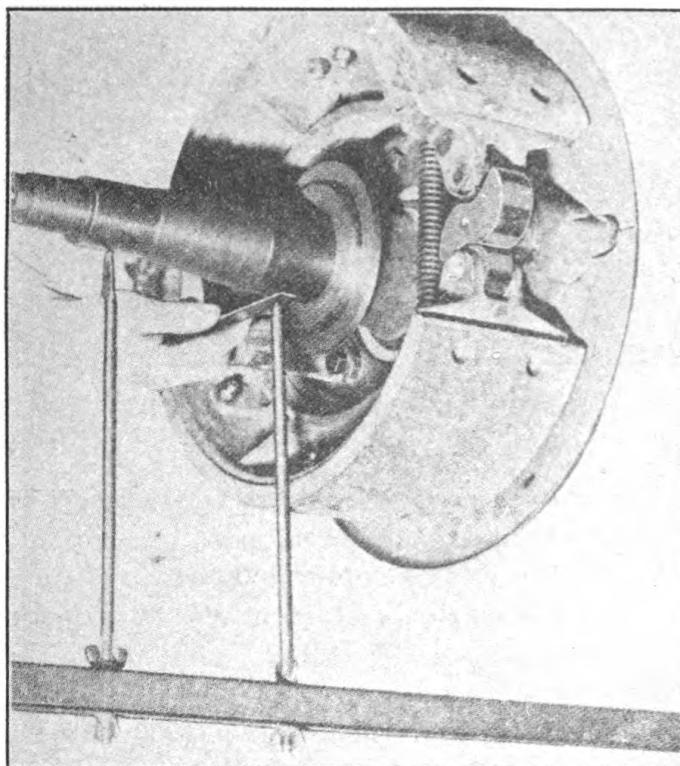

FIGURE 9. CHECKING AXLE FOR CAMBER.
**4. CHECKING FOR CAMBER** (Figure 9).—*a.* Set the points of the axle gauge in exactly the same position on the axle and in the same manner as outlined in points *a.* and *b.* of Checking for Bend.